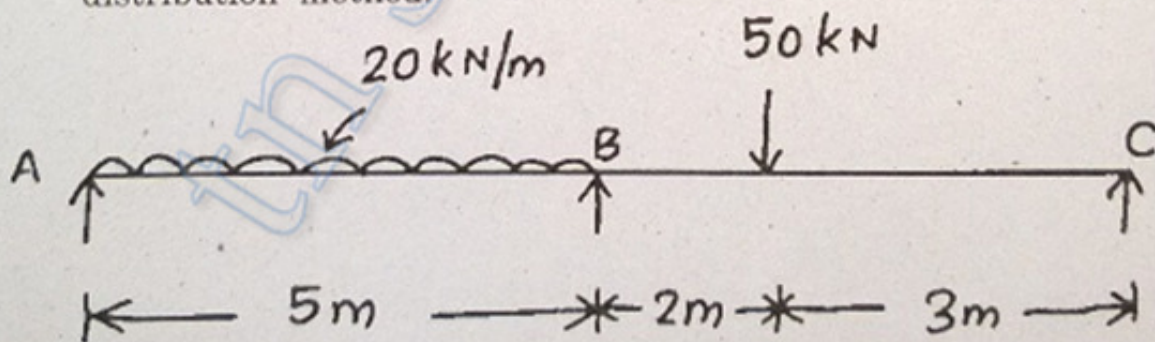

Fig. Q. 15 (a)
15. (a) Analyse the continuous beam given in Fig. Q. 15 (a) by moment distribution method.